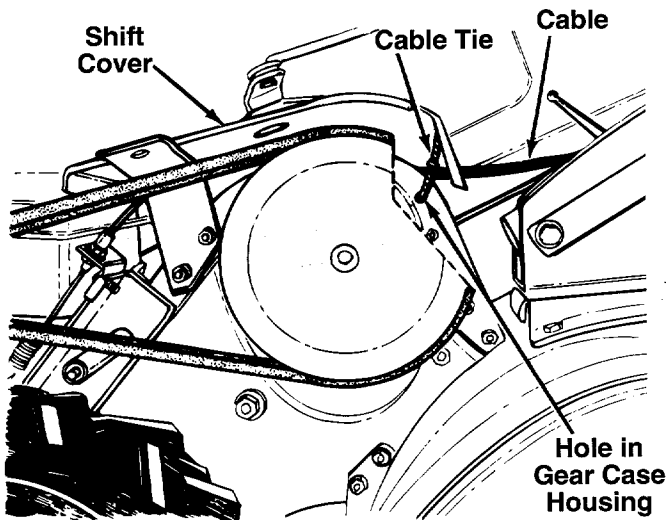

FIGURE 10.
19. Secure the drive cable to the top of the gear case housing (underneath the shift cover) using one of the cable ties (D) provided, keeping the cables away from the pulley. See figure 10. Cut off excess end of cable tie.